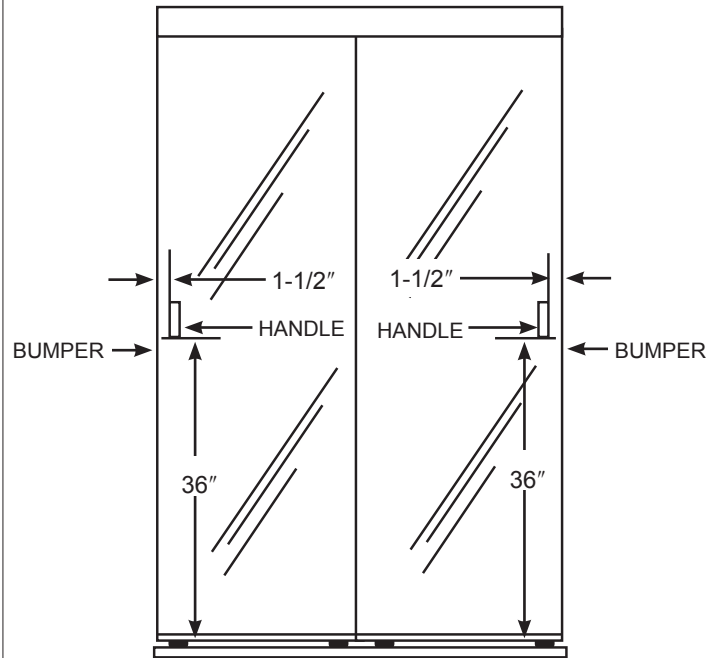

Figure 5
Peel paper off the back of the Clear Bumpers (#8) and place on the edge of the Panel frame 30-1/2" up from the bottom. The Clear Bumpers (#8) will cushion and protect the door and wall when you close the Wardrobe Doors (See Figure 5).
- A. Clean the mirror in the area where the Mirror Handles (#7) will be applied. Peel paper off the back of the Mirror Handles (#7). Position each Handle 36" from the bottom of the Panel (#1) and 1-1/2" from outside edge of the Side Mold (#11) (1/2" in from the Glazing Vinyl (#16) on each Panel (#1) (See Figure 5).